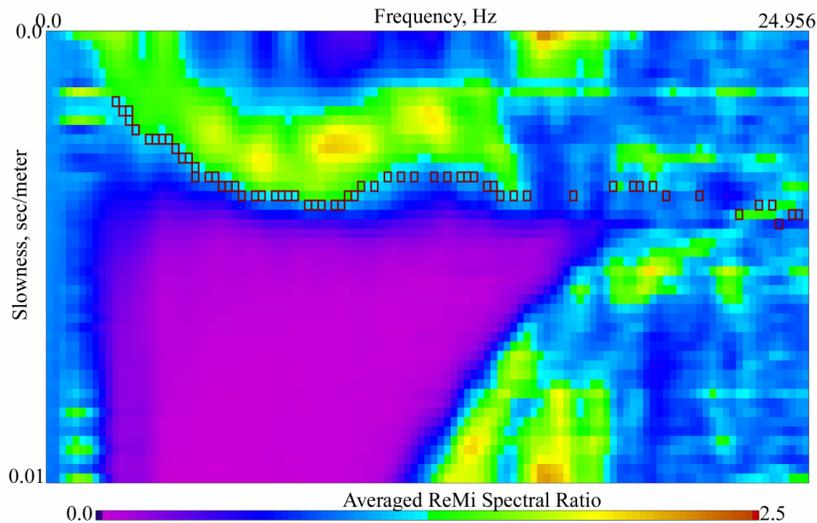
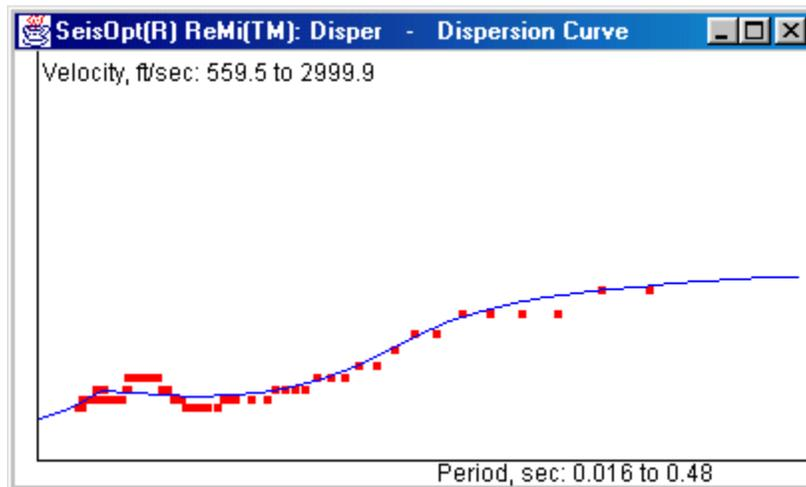

Figure 55: Example p-f image showing the dispersion picks for a model with velocity reversal.
Figure 55a: Dispersion picks (red squares) made from the p-f image shown in Figure 55 and the fits (blue line) produced by the model shown in Figure 55b.
evidence suggesting its presence or if quite a few p-f images (velocity spectra, Figure 55) show velocity reversal signatures.
- 25. Figure 55 shows an example velocity spectrum (p-f image) that shows a velocity reversal. Figure 55a and b show the picks and the model profiles that fit the dispersion picks. This data set shows a clear “kink” in the picked dispersion values (red squares) that is indicative of the presence of a high velocity layer and thus it is safe to model it as a velocity reversal.